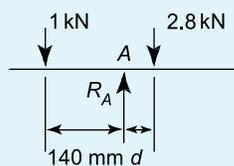

Figure 5.7
- Determine distance d and the force acting at the support A for the force system shown in Figure 5.7, when the system is in equilibrium.
- If the 1 kN force shown in Figure 5.7 is replaced by a force F at a distance of 250 mm to the left of R_A , find the value of F for the system to be in equilibrium. [560 N]